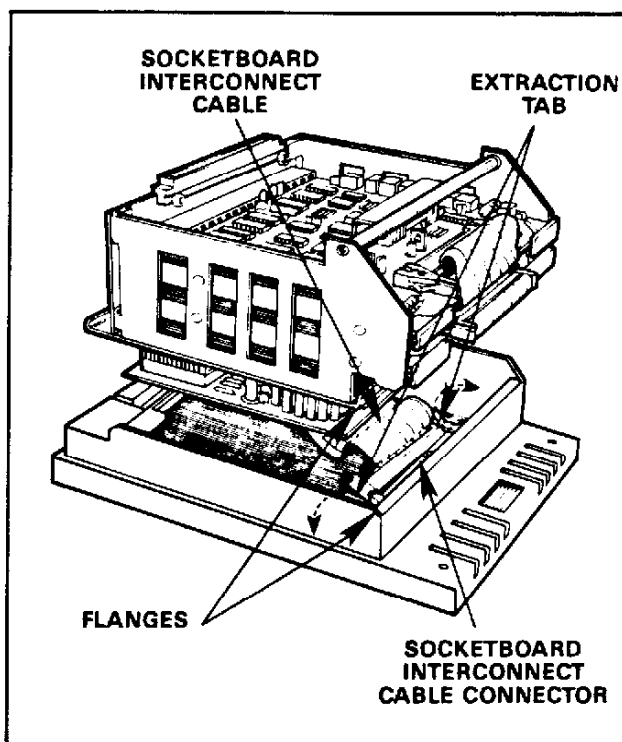

Figure 4-2. Socket Board Interconnect Cable Disconnect
5. Lift the card cage up until you can see the socketboard interconnect cable and its connector (figure 4-2).
6. Flip the extraction tabs out on each side of the connector (figure 4-2).
8. Disconnect the ground wire from the socketboard (see figure 4-2).
9. Plug the socketboard interconnect cable into its connector on the socketboard (figure 4-2).